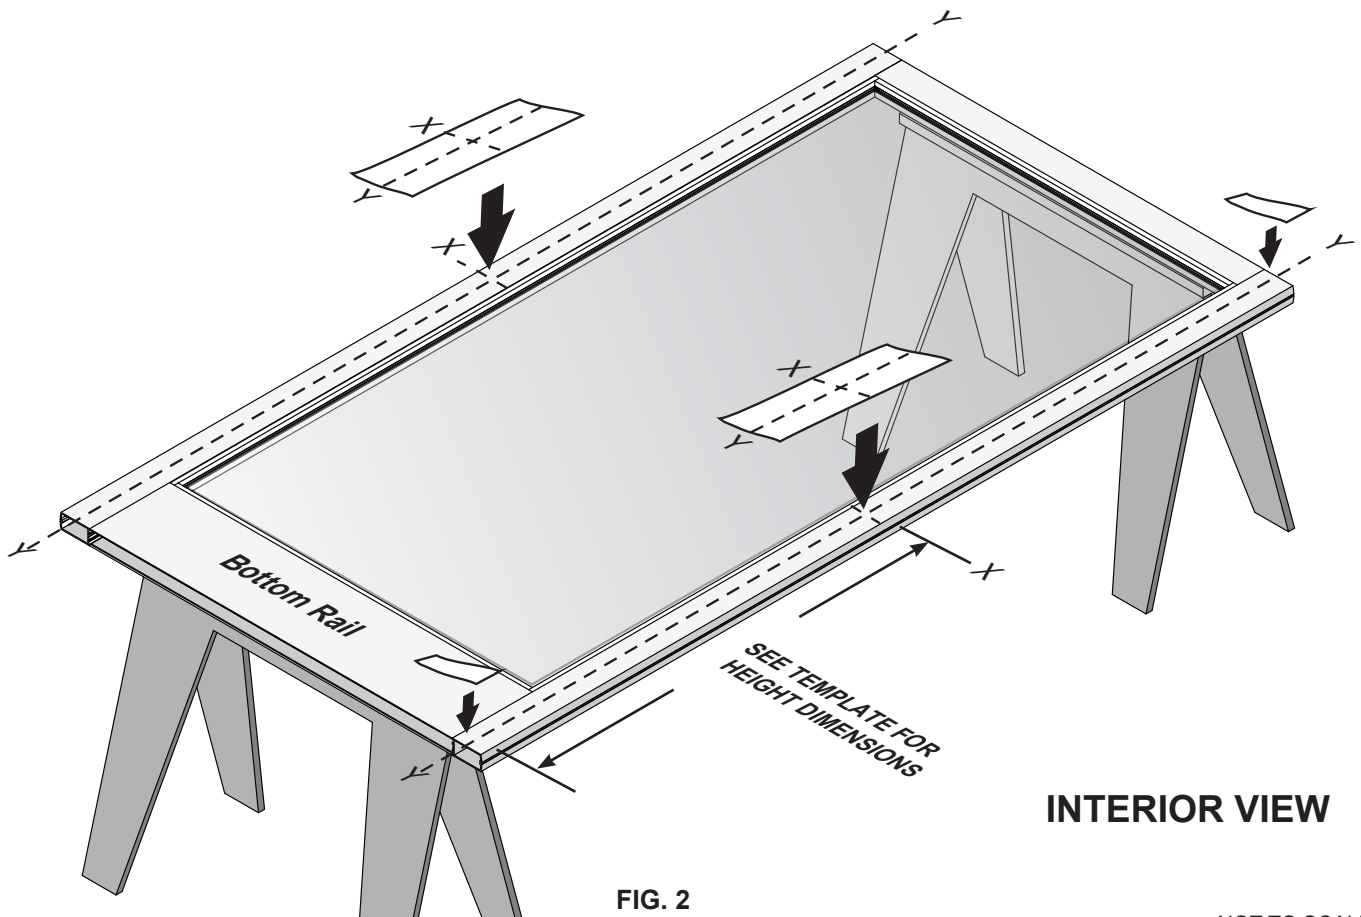

FIG. 2
3. Mark the corresponding layouts on to the stile using the vertical centerlines at the specified height. (**Fig. 2**)